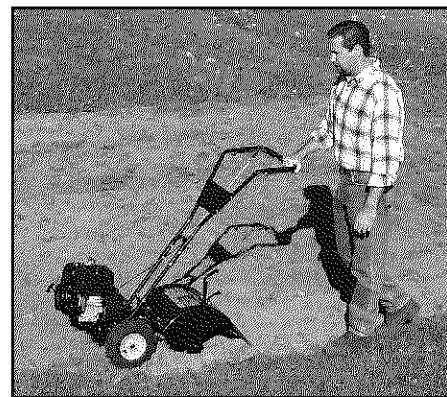

Figure 4-2: Use one hand to guide tiller when moving forward.
- (b) As the tiller moves forward, relax and let the wheels pull the unit along while the tines dig. Walk behind and a little to one side of the tiller. Use a light but secure grip with one hand on the handlebars, keeping your arm loose. See Figure 4-2.
- While tilling, relax and let the wheels pull the tiller along while the tines do the digging. Walk on the side that is not yet finished (to avoid making footprints in the freshly tilled soil) and lightly, but securely grip the handlebar with just one hand. See Figure 4-2.